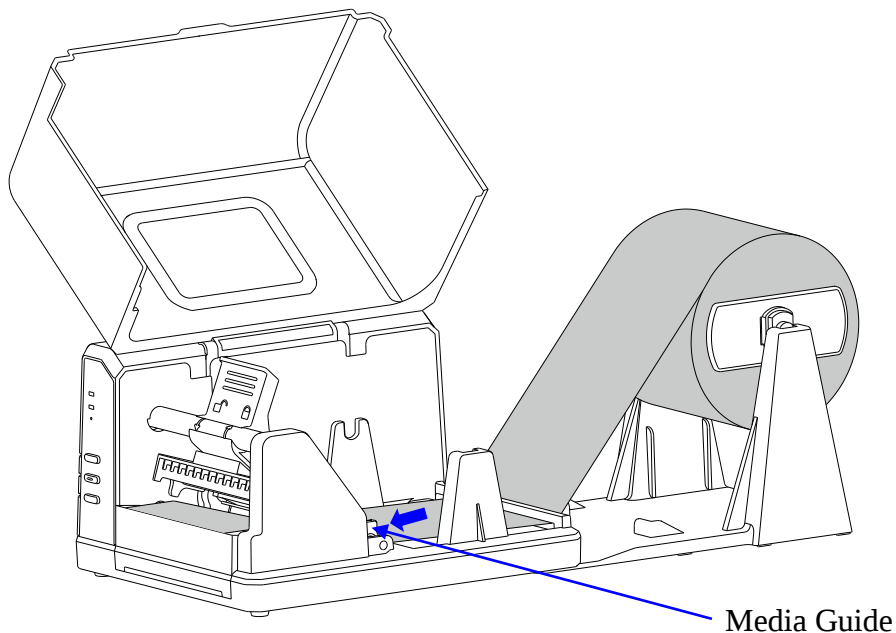

Figure 2-12 Thread the Media
8. Slide the Media Guides to the edge of the media, making sure that the media remains flat and is placed in the middle of the Tear-off Bar. This can be checked with the ruler on the Tear-off Bar. See Figure 2-12.